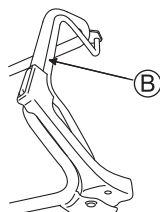

Fig. 19
4. Push the drive clutch lever (B) forward to start mowing. (See Fig. 19)